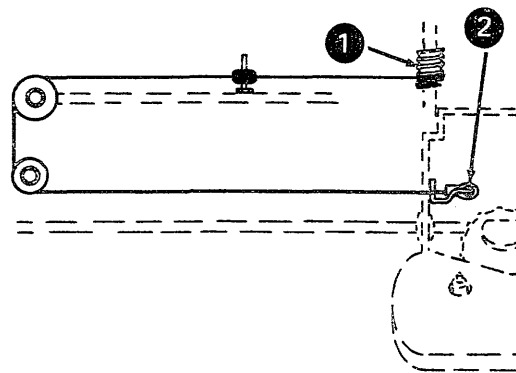
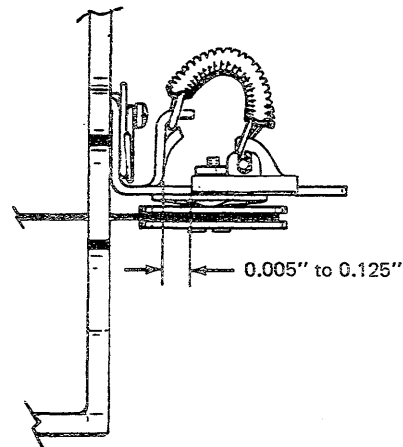

Figure 3-200. Carrier-Return Cord
Figure 3-202. Cord Tension
1. With both cords properly threaded (Figures 3-200 and 3-201), adjust the carrier-return cord drum (see point 1, Figure 3-200) so that the pulley pivot-screw nut clears the pulley bracket by from 0.005" to 0.125" (Figure 3-202). Use the procedure given in the preceding note, if possible.